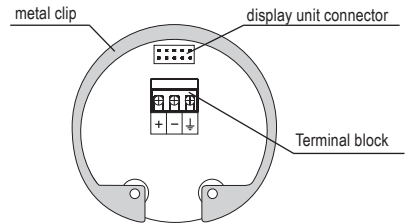

Fig. 23: Inside view of screw terminals of the level meter with current output GRLM-70 _ _ _ - I
5. Connect the cable to the screw terminals according to the diagram in Fig. 23 or 25. Firmly tighten the terminals and the cable outlet. Tightening torque see. Technical parameters p. 36.
6. If the level meter with Modbus is involved as a terminal for RS-485, we recommend (to avoid reflections on the line) to connect 120Ω termination resistor. This is done by moving a small lever of the switch marked 120Ω to the ON position. On the level meters connected to the line RS-485 as an intermediate device, the termination resistors are not connected (switch remains off) in Fig 23.
In the event of strong ambient electromagnetic interference, paralleling of conductors with power distribution, or for distribution to distances over 30 m, we recommend grounding the level meter (see above) and using a shielded cable. Ground the shielding of the cable on the side of the power supply, or the shielding is possible to connect only on inside pin of the level meter marked  see fig. 23 and 25 (the shielding of the cable is always connected in a single location).